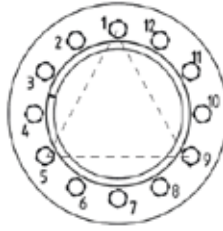

Fig. 5.10.4
- slightly tighten a first group of three screws positioned at about 120° as shown for example in the figure 5.10.4;